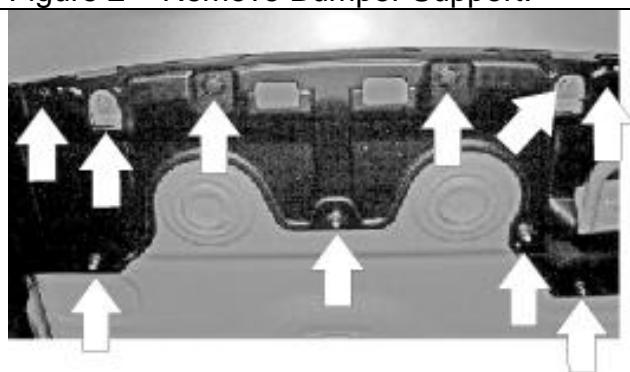

Figure 3 – Remove shroud.
3. Remove the shroud underneath the vehicle by removing nuts x 4, scrivenets x 4 and bolts x 2, as shown in Figure 3.